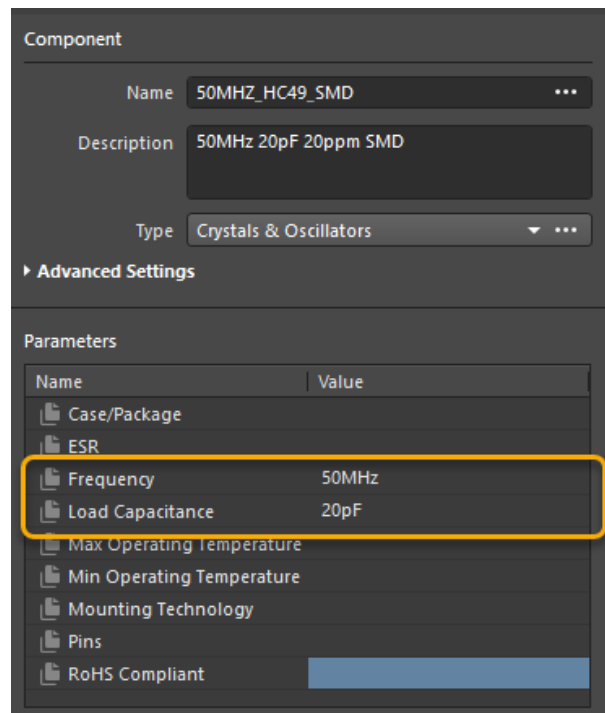

Figure 7. Component Parameters
9. In the *Parameters* section (see Figure 7 below), add the following values: